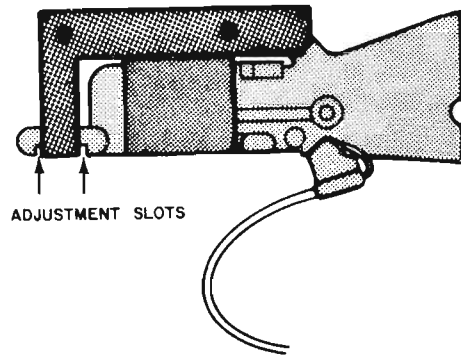

FIGURE 16 HEAD ADJUSTMENT
- c. Position a screwdriver at the point indicated in Figure 16, and manually move the head assembly in or out to obtain the correct alignment waveform.
- g. Reposition the R/W heads back to the alignment track (146), and recheck the alignment of the heads. Repeat the adjustment procedure as necessary.